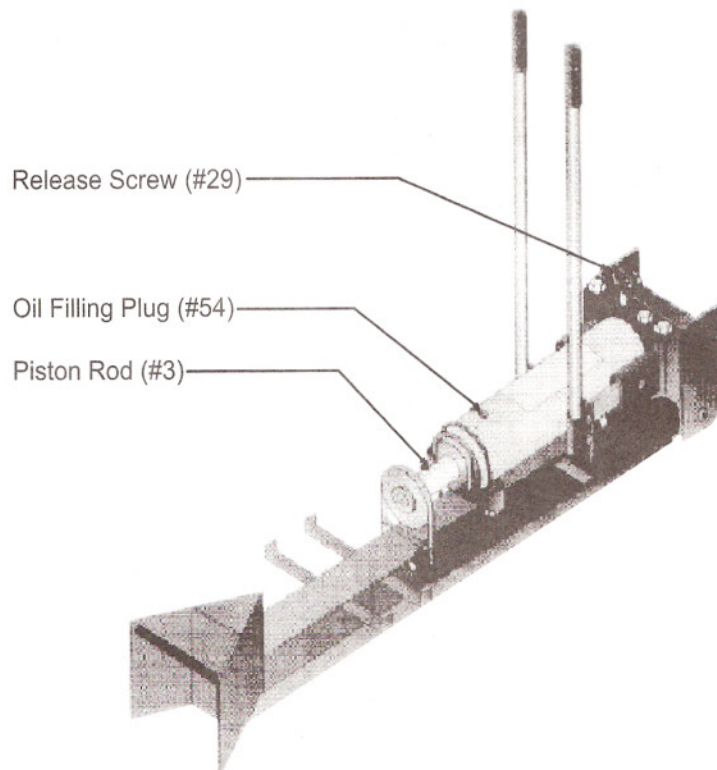

Figure 4 - Bleeding the Log Splitter
Step 2: Remove the **OIL FILLING PLUG (#55)** as shown in the Figure 4.